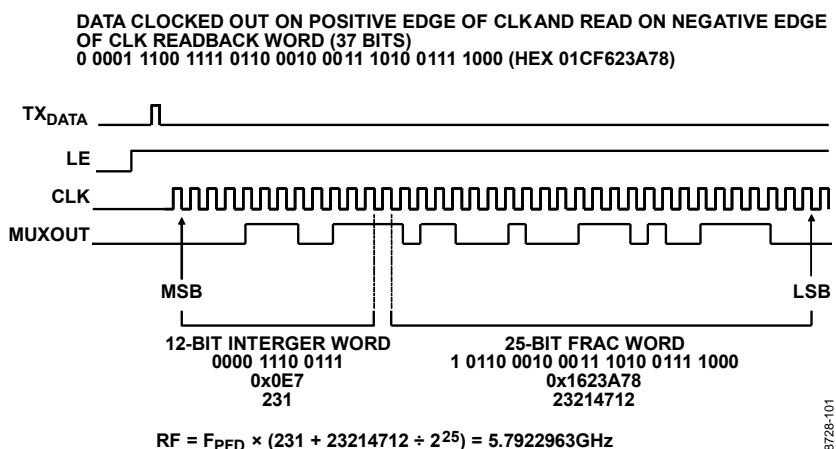

Figure 42. Reading Back Single Bits to Determine the Output Frequency at the Moment of Interrupt
The mechanism of how single bits are read back is shown in Figure 42.
- Frequency readback (as described at the beginning of the Interrupt Modes and Frequency Readback section and Figure 42)